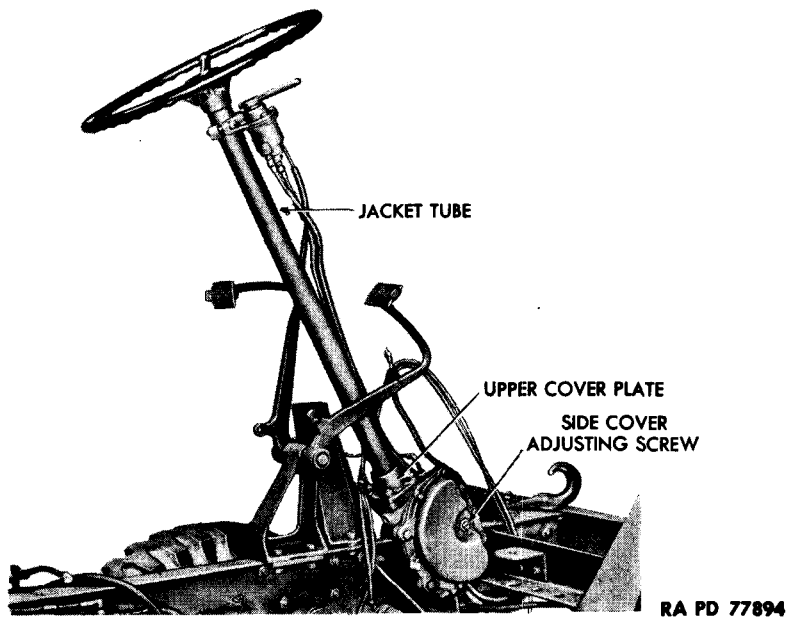

Figure 87 - Steering Gear Installed
a. Description (figs. 87 and 89). The steering gear is attached to the frame side rail at front left-hand side of vehicle, extending from the steering arm attached to left front wheel assembly through the steering gear housing to the steering wheel in the cab. The gear is the roller-mounted twin-lever type. The turning action of the steering wheel is relayed to the steering arm through a cam engaged to two studs mounted in tapered roller bearings on the lever shaft.
a. Maintenance (figs. 87 and 89). Check the drag link regularly for excess slack or end play. Check steering jacket tube assembly for end play by attempting to move it back and forth on its axis. Keep steering gear housing filled with proper lubricant.
(1) **ADJUST JACKET TUBE VERTICAL END PLAY (fig. 87).** Disconnect steering arm from drag link (par. 143). Loosen dash bracket clamp to prevent drag from hindering adjustment. Loosen side cover adjusting screw lock nut and side cover adjusting screw at right-hand side of housing. Remove the four nuts and lock washers which secure upper cover plate to housing. Slide cover plate up, and remove one of
(2) **ADJUST LEVER SHAFT END PLAY** (fig. 87). Turn wheels straight ahead, placing studs in cam groove at midposition of travel. Tighten side cover adjusting screw until a very slight drag is felt through the midposition. Tighten adjusting screw lock nut, and recheck drag after lock nut is tight.